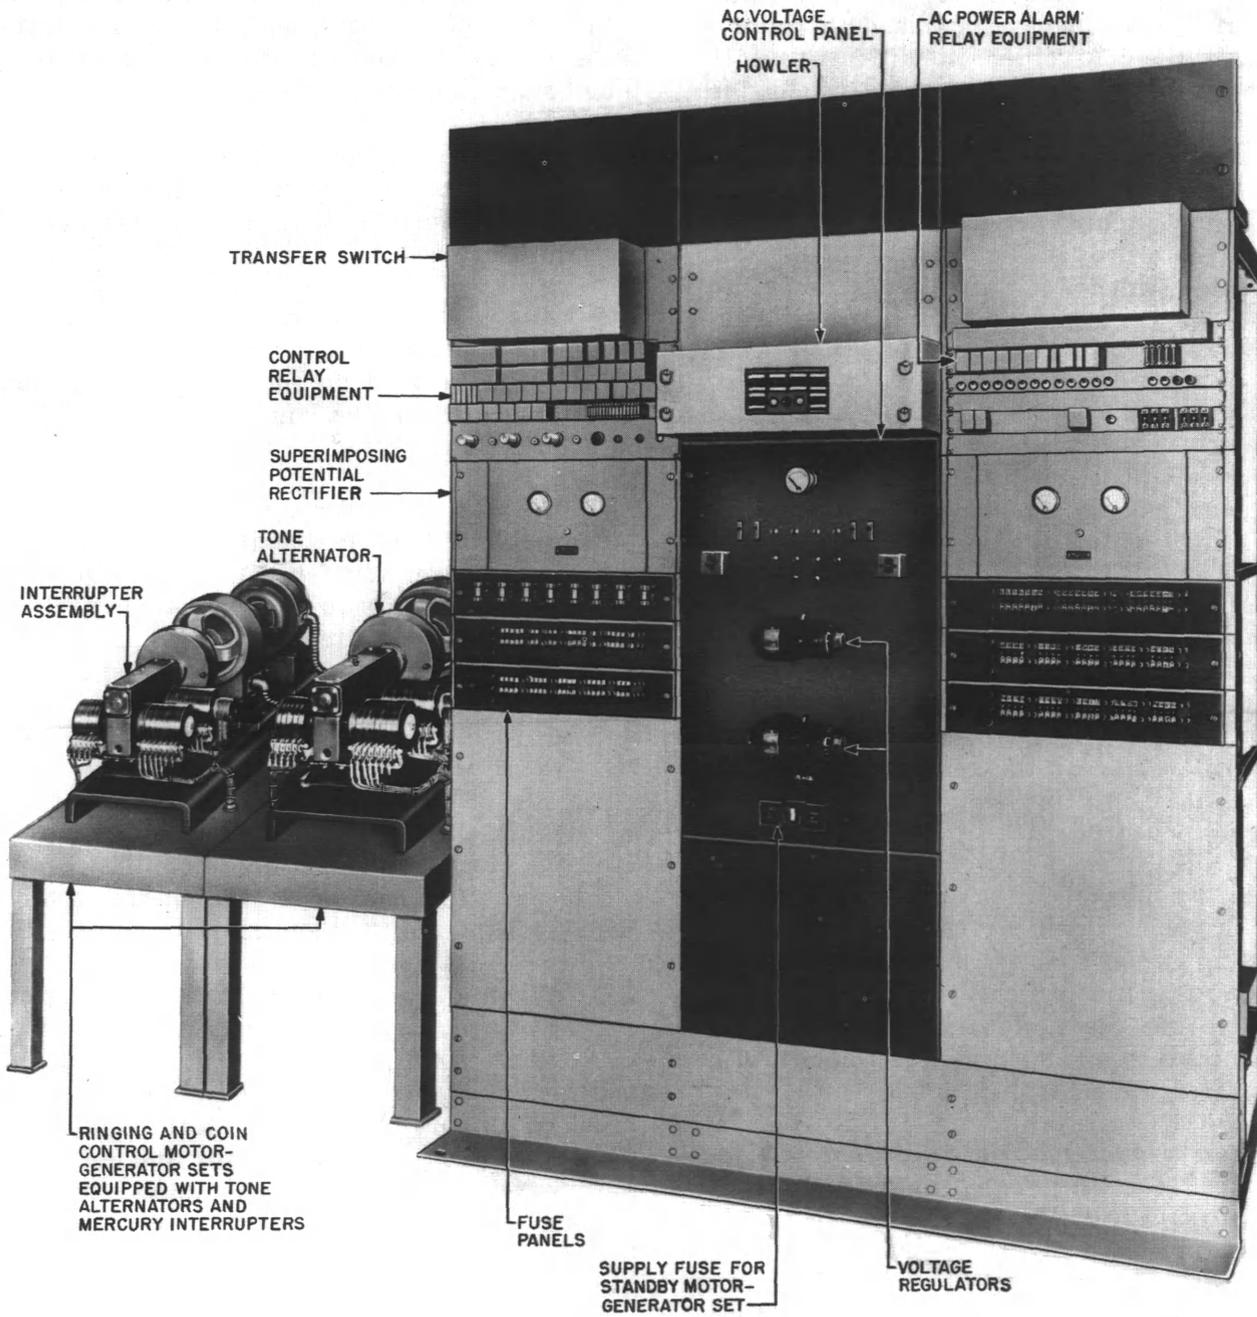
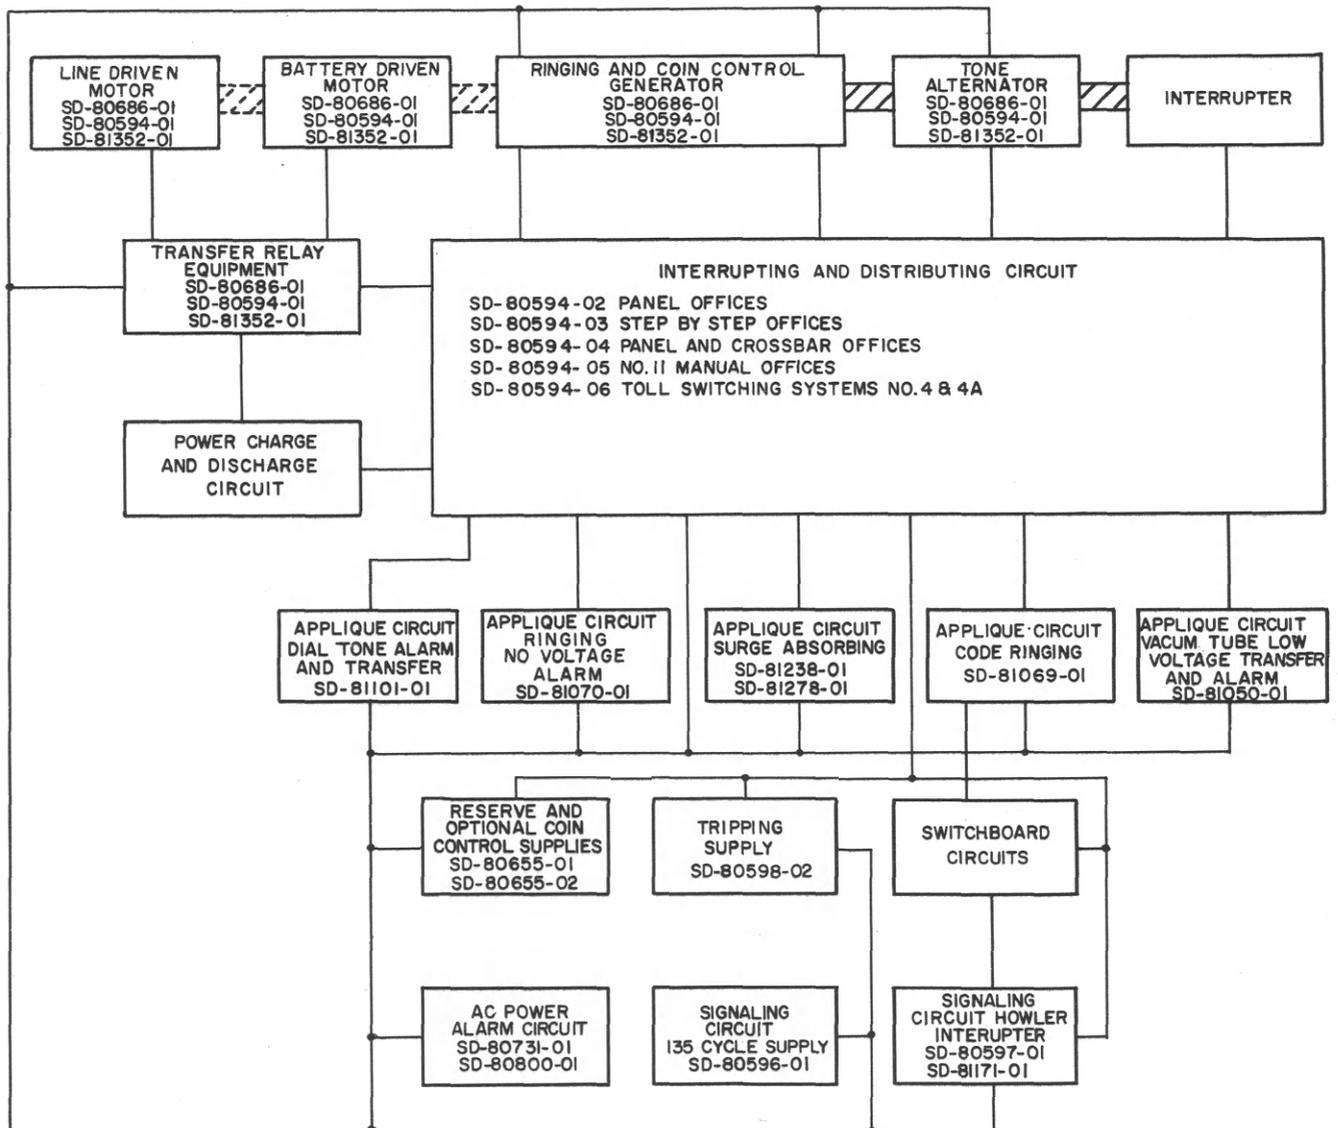

Fig. 1 - 803C Ringing Power Plant
Fig. 2 – Operational Schematic — 803C Ringing Power Plant
2.01 General: The 803C power plant is arranged to provide ringing current, tones, and signals for machine ringing No. 11 manual, panel, No. 1 crossbar, No. 4 and 4A toll switching systems, larger step-by-step and No. 5 crossbar offices, and these offices combined with toll. Fig. 1 shows the 803C power plant and Fig. 2 shows an operational schematic of this plant.
2.06 *Reserve and Optional Coin Control Supplies (Usually Found on Older Plants Similar to the 803C):* When rectifier coin control is furnished for existing offices having a coin control generator with 100/120-volt output, it may be mounted in a bay adjacent to the bays shown in Fig. 1, and this additional bay may also mount the message register equipment (103B power plant) in step-by-step offices.